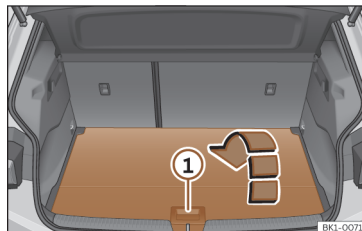

Fig. 171 In the luggage compartment: open the second luggage compartment floor.
- To *open* it, grasp the handle >>> **Fig. 171** **!** and fold the rear of the luggage compartment floor forwards in the direction of the arrow.